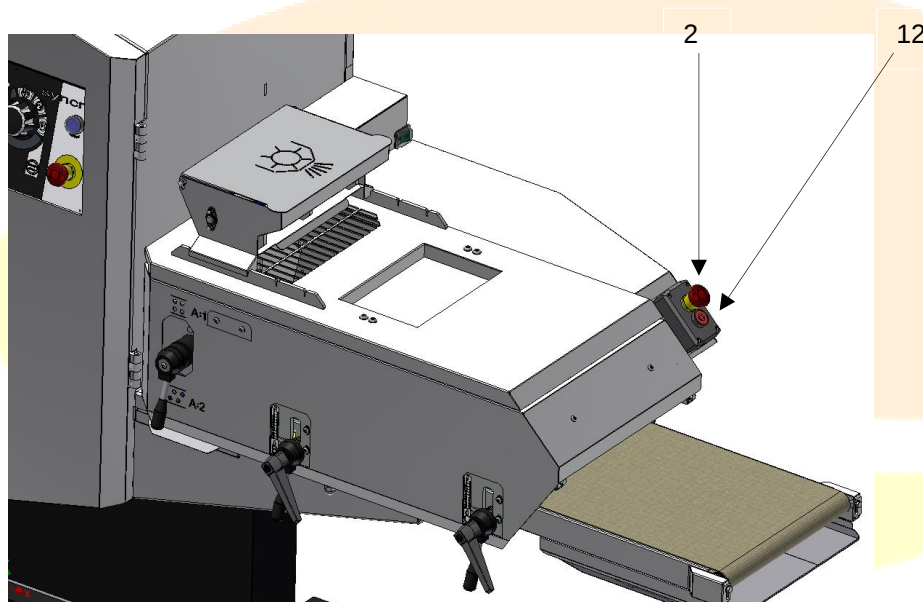

Figure 5 - Secondary stop control panel
Both the “SYNCRO” and “SYNCRO E” are equipped with their own control panel; the push-buttons are arranged differently, but the functions of each push-button are exactly the same. In addition to the push-button panel, the control panel has a luminous display ref. 11 and a rotary control for selecting the options available on the “I-DRIVE” screen ref. 9. Finally, only the versions equipped with loaf moulder are fitted with an additional control panel Figure 5 that features only the STOP and EMERGENCY STOP controls and is located after the loaf moulder.
The machine secondary stop control panel Figure 5 is located in the unloading area of the processed product. It is installed exclusively in the "SYNCRO M" and "SYNCRO EM" versions as the working position of the operator for these machines is particularly distant from the main control panel; the presence of this secondary control panel thus improves the ergonomics when stopping the machine. It consists of a STOP only control, ref. 12, and of an additional EMERGENCY STOP control, ref. 2
7. To execute a standard shut down, use the STOP control identified with ref. 8 in Figure 4 e ref. 12 Figure 5.
8. When the emergency stop push-button ref. 2 Figure 4 and ref. 2 Figure 5 is pressed, the machine stops very quickly (fractions of a second) and the power to the actuators is cut off. To restart the machine, first reset the emergency push-button and then press the "RESET" button ref. 1 Figure 4. **The emergency push-button should be used only if absolutely necessary.** 10. The same result can be obtained by activating a safety device (interlocked guard, etc.).
9. **To shut down the machine** in standard conditions **do not use the emergency push-button or the safety devices**; instead use the STOP control, identified with ref. 8 in Figure 4 of par. 2.4 and ref. 12 of Figure 5, to ensure the efficiency of the safety systems for as long as possible.